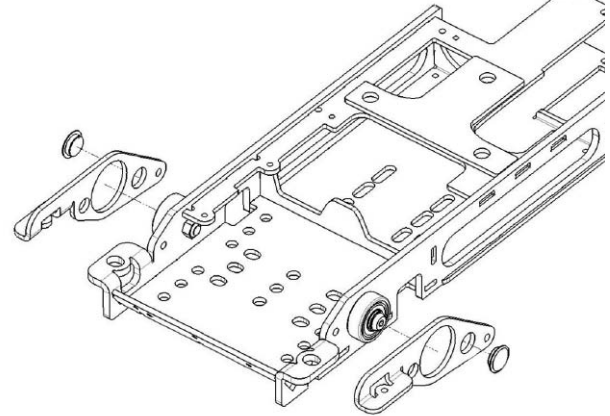

Fig. 13. Remove the slide pucks and plates.
14. Remove the slide pucks and plates. See fig. 13.